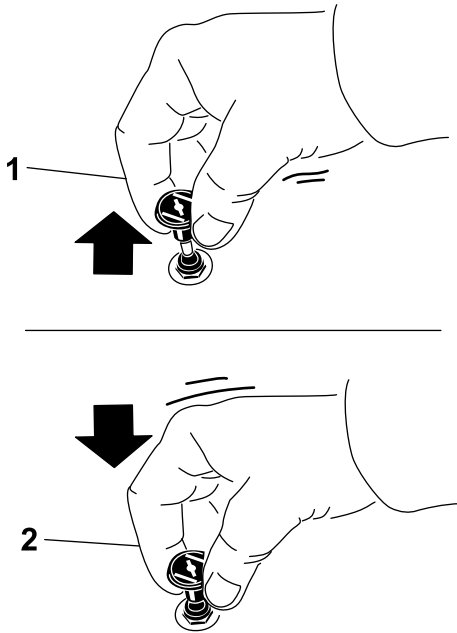

Figure 30
1. Pull up the choke knob to engage the choke before using the key switch (Figure 30).
2. Push down the choke knob to disengage the choke after the engine has started (Figure 30).